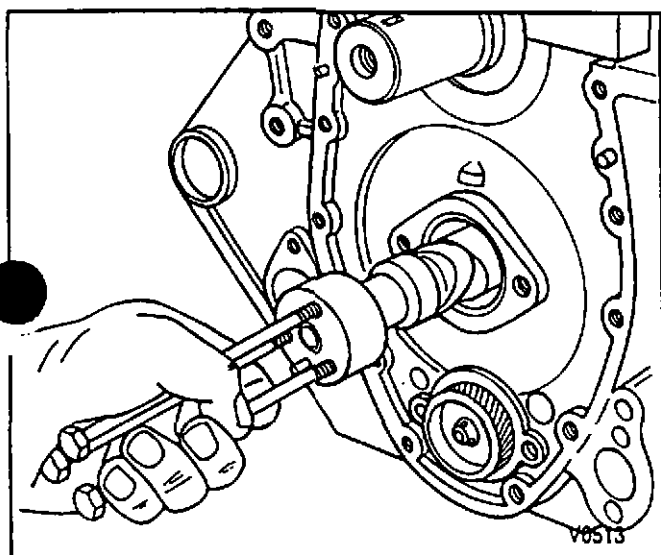

Figure 35—Installing Camshaft
2. Camshaft to the engine (figure 35). Handle the camshaft carefully to prevent damage to the camshaft bearings.